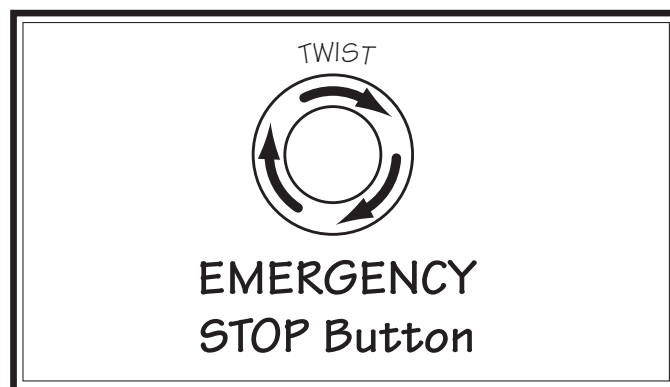

Figure 27. Resetting EMERGENCY STOP button.
7. Twist EMERGENCY STOP button clockwise until it springs out (see **Figure 27**). This resets switch so machine can start.